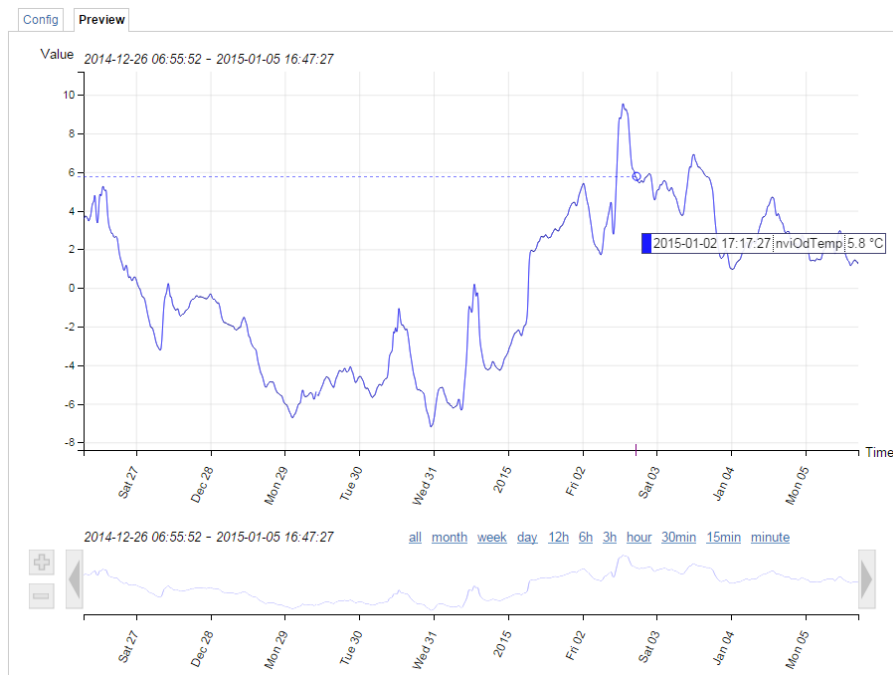

Figure 63: New trend chart on the Web UI
- The trend log configuration on the Web UI now also provides a preview tab, which shows a chart of the trend log data. The trend chart allows zoom, scrolling and hiding specific data curves, as shown in Figure 63.